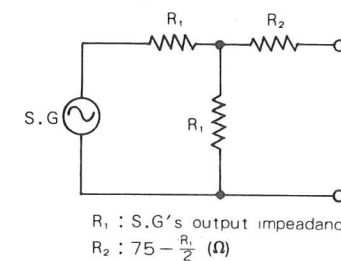

Fig. 10
4. During FM-RF alignment, connect output of signal generator to such a dummy antenna as shown in Fig. 10.
①	High freq. end	10.7 MHz $\pm$ 1MHz sweep	*S* curve is obtained with T202 and maximum curve is obtained with T201
②	Repeat step ①
- Signal Generator.....Connect to antenna jack through a dummy antenna as shown in Fig. 10.